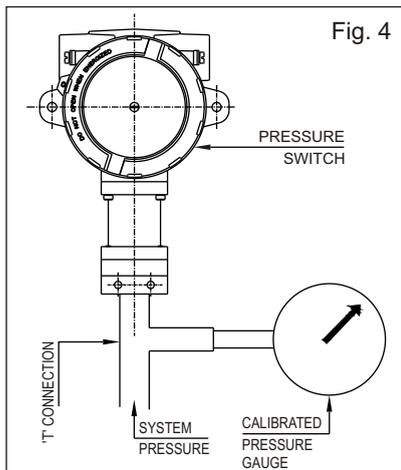

Fig. 4
- i) Use 'T' connection & connect calibrated pressure gauge to the 'T' connection as shown in the figure 4.